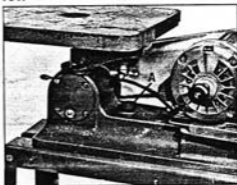

Fig. 10
**FILL THE CRANKCASE BEFORE OPERATING** - Unscrew oil plug (A) Fig. 10, and fill crankcase with light #10 oil. The capacity of the crankcase is approximately 1½ pints. When filled, the oil should be within ¼" of the top of the oil filler hole. Excess oil can be drained by removing oil plug located directly underneath crankcase. Replace plug (A) after filling.